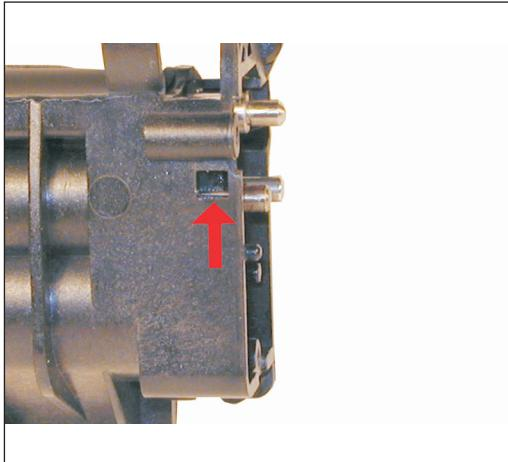

Figure 18
- 13) Press in on the bottom tab of the Developer roller plate to release it. See Figure 18